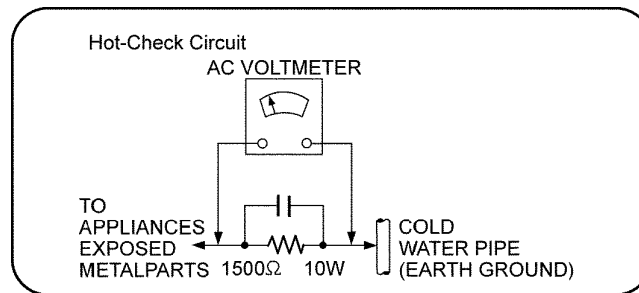

Figure 1-1
- Connect a $1.5k\Omega$, 10 watts resistor, in parallel with a $0.15\mu F$ capacitors, between each exposed metallic part on the set and a good earth ground such as a water pipe, as shown in Figure 1-1.